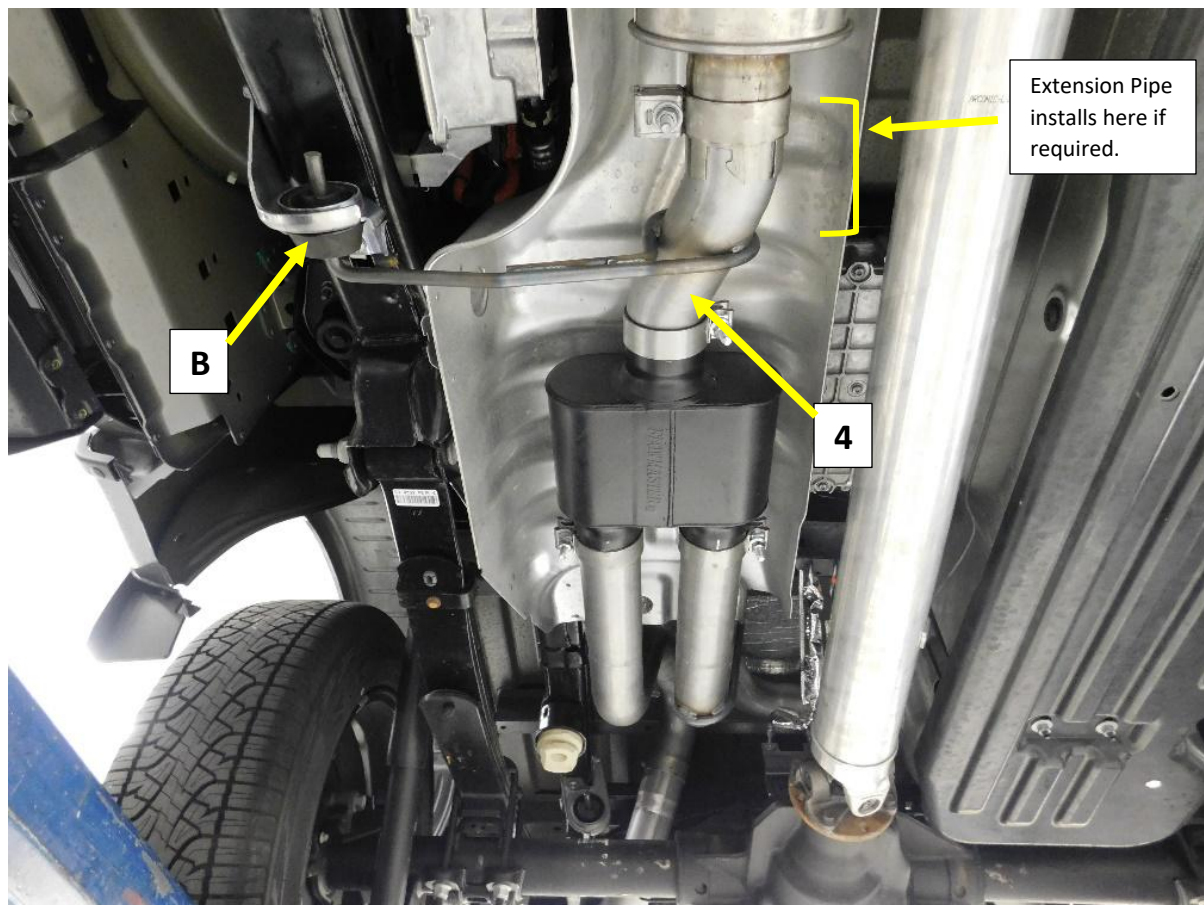

Figure.8
1. Install the muffler inlet pipe (4) into the resonator. **Fig.8**
2. Install the muffler frame hanger (B) on to the inlet pipe hanger rod, Install the (x3) bolts and tighten. **Fig.8**
3. Tighten the OEM clamp at the resonator to allow for adjustment. **Fig.8**